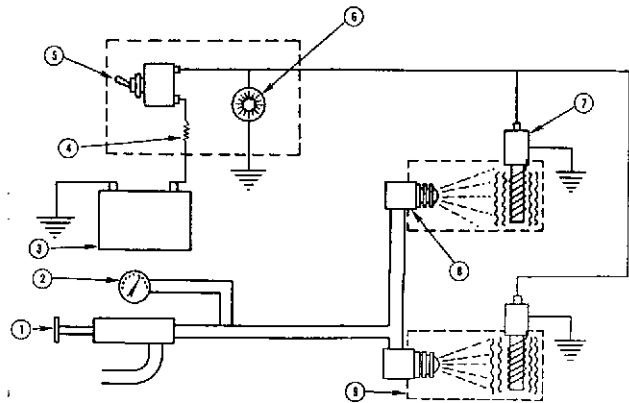

Fig. 2-4, V41803. Preheater wiring diagram
To aid in starting engine when temperature is 50 deg F [10 deg C] or below, an intake air preheater is available. The preheater equipment consists of a hand-priming pump (1, Fig. 2-4) to pump fuel into the intake manifold (9), a glow plug (7) which is electrically heated by battery (3), and a switch (5) to turn on the glow plug. Fuel burns in the intake manifold and heats the intake air.